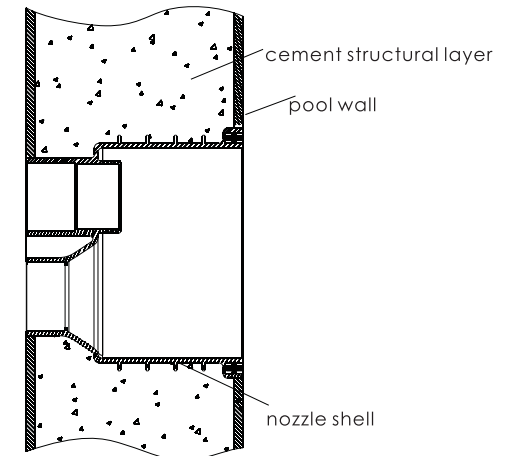

Figure 2
b) Fit counter current jet body into in to concrete wall. (Figure 2)